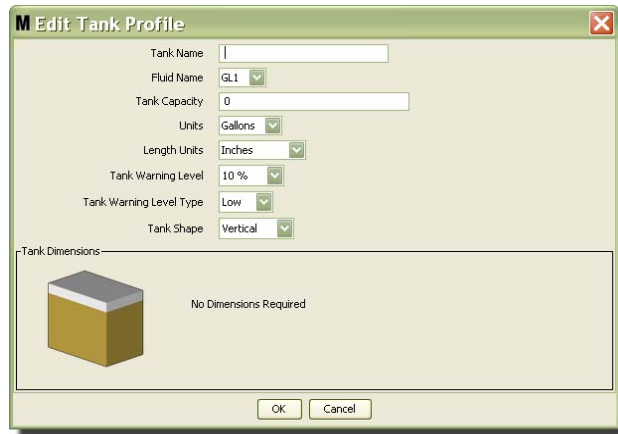

FIG. 114
3. The Edit Tank Profile screen shown in FIG. 114 displays.